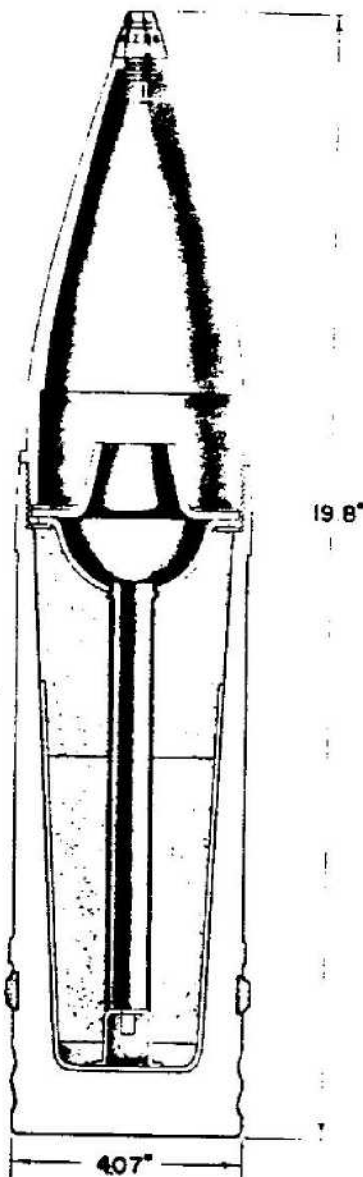

Figure 474.—Hollow Charge Projectile, Type C,
**GERMAN NOMENCLATURE:** 10-cm Gr. 39 rot HL/C (10-cm Granate 39 rot Hohl Ladung/C). (See fig. 474.)